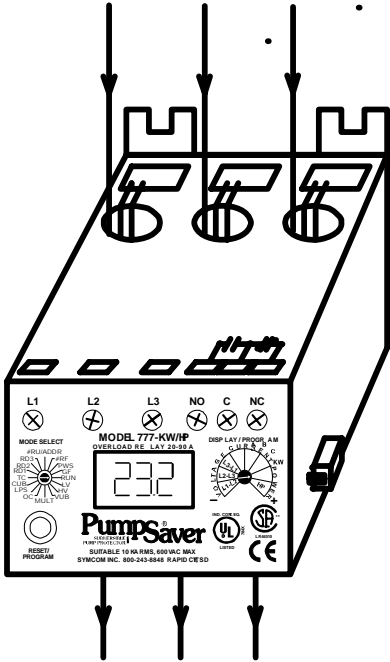

Figure 2: Typical Wiring Diagram with Conductor Looping
B) For amperage less than 25 amps, loop the motor conductors according to Table 1. Figure 2 shows an example of the looping required for MULT = 3.